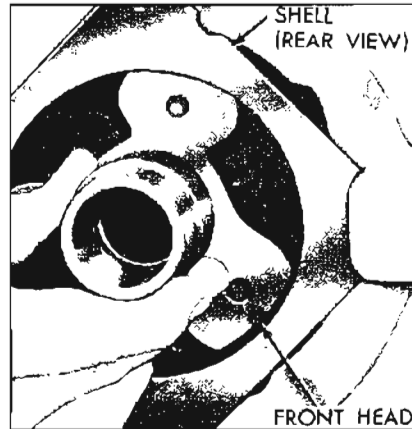

Figure 11-75—Removing Front Head
12. Disassemble front head from shell by tapping front head with a mallet to unseat head, and lifting straight out through rear of shell the front head and shell to head "O" ring (see Figure 11-75). Discard "O" ring.